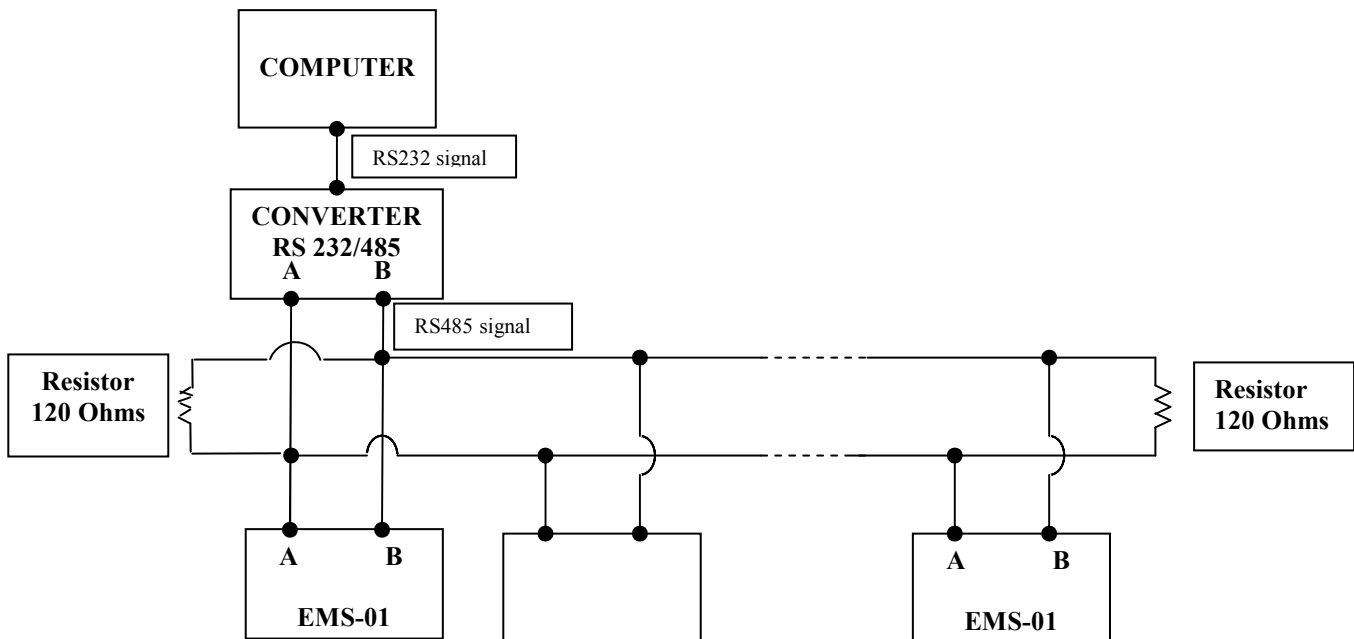

Fig. 3
**RS-485:** Connect terminals '7' & '8' from the unit ('A' & 'B' terminals from the unit) to the converter terminals 'A' & 'B'. Connect the other end of the converter having DB-9 pin serial port to the computer (distance should be less than 5 meters). Multiple units that can be connected in daisy chain fashion as shown in Fig.3. Maximum units that can be connected will be up to 32 units & terminate network with 120 ohms resistors on either side. Transmission distance between RS232/RS485 converter to the terminating unit should not exceed more than 1.2 Kilo Meters.